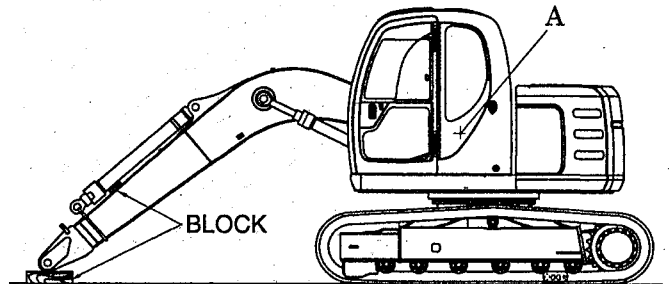

Fig. 4-1 Position to remove boom
When removing and attaching boom in the position shown in Fig.4-1, to remove and attach boom foot pin (A), removing and attaching of cab and guard are required.